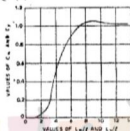

Fig. Q5 (b)
- b. Determine the warping stresses at interior, edge and corner regions in a 25 cm thick concrete pavement with transverse joints at 11 m intervals and longitudinal joints at 3.6 m intervals. The modulus of subgrade reaction (K) is 0.069 N/mm^2 . Assume temperature differential for day conditions to be 0.6°C per cm slab thickness. Assume radius of loaded area as 15 cm for computing warping stress at the corner. Take $e = 10 \times 10^{-6} \text{ per}^\circ\text{C}$, $E = 0.3 \times 10^5 \text{ N/mm}^2$ and $\mu = 0.15$. Use the chart in Fig. Q5 (b)